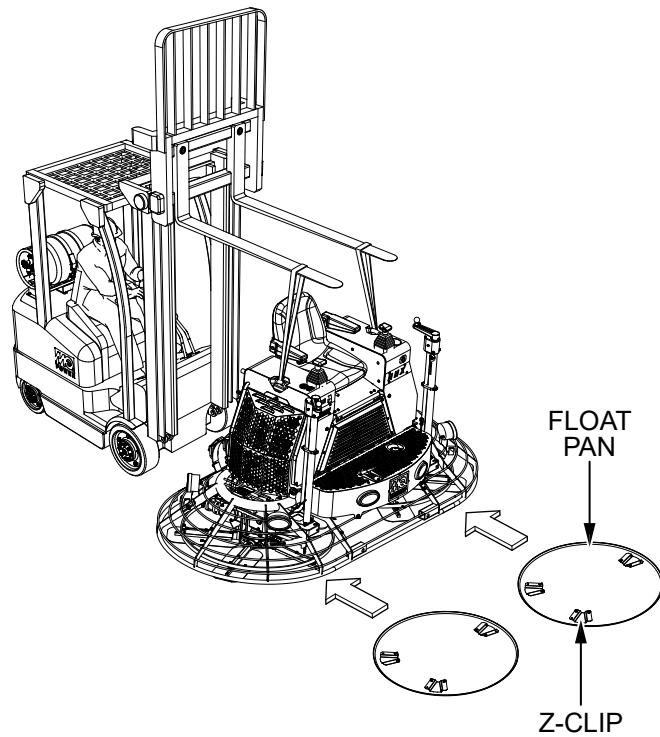

Figure 53. Float Pan Positioning
1. Lift the trowel just enough to slide float pans with Z-clips under the blades (Figure 53). Slowly lower the trowel onto the pans with the blades adjacent to the Z-clips.